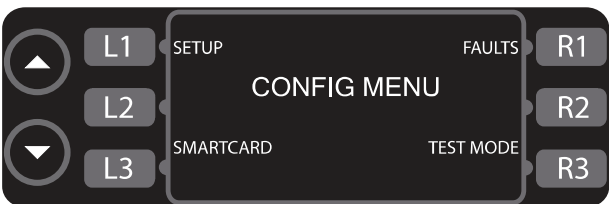
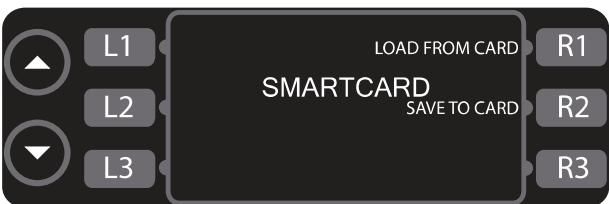

Figure 16: Config Mode
Figure 17: Smart Card Screen
The config mode (Figure 16) serves four main purposes:
- 1. Touch L3 (Figure 16) to access the smart card screen (Figure 17).
- Touch R1 to load a menu from the smart card to the oven (Figure 17).
- Touch R2 to save a menu from the oven to the smart card (Figure 17).
From the configuration mode (Figure 16), touch R1 to access the fault counts screen (Figure 20, page 16). The oven will display the number of faults that have occurred.
From the configuration mode (Figure 16), touch L1 to access the setup mode. The setup mode allows the user to customize several oven settings - see below for more details.